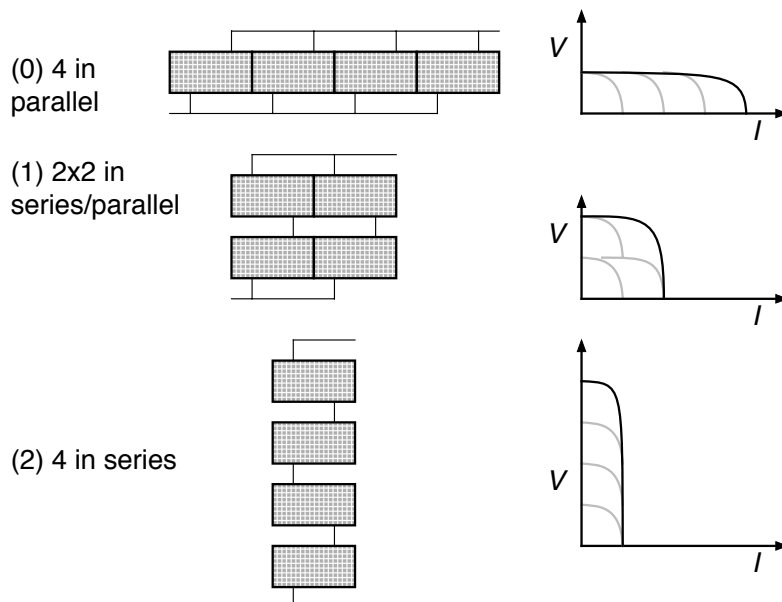

Figure 2. Four PV panel system in different modes.
In part two of this project, you will consider a solar PV system comprised of 4 solar panels of the type described in Part 1. They will be installed in a close-spaced rectangular array but will be wired with switches so it is possible to connect the four in parallel (mode 0), 2x2 in series/parallel (mode 1), or with the four in series (mode 2). As shown in Fig. 2, these changes combine the V - I characteristics of the individual modules to produce three very different overall system V - I characteristics.
- (a) Start with the skeleton code CodeP4.2F25.ipynb. This code is similar to neural network codes used in earlier projects, but here, it directs you to use data set CodeP4.3F25.ipynb, which contains the arrays for the input data [M , T_{air} , I_D , R_L] (note this includes the mode number M), and the output parameters are the load voltage and power output [V_L , \dot{W}] for the 4 panel system depicted in Fig. 2. Except for the mode numbers, determine the median value for each parameter and normalize the data by dividing each parameter value by its median value. **Do not normalize the mode numbers.**